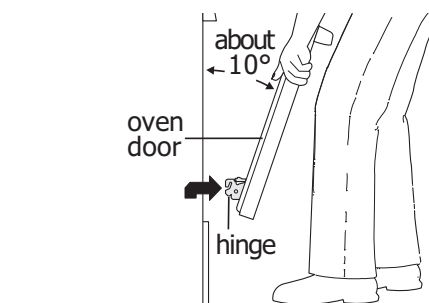
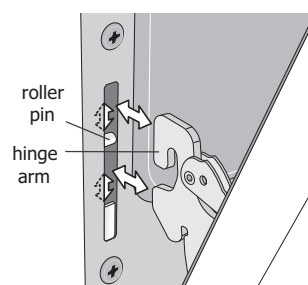

Figure 18: Holding door for removal
Figure 19: Replacement and location of hinge arm and roller pin
3. Firmly grasp both sides of oven door along the door sides. Do not use the oven door handle (See Figure 18).
4. Close the door to approximately 10 degrees from the door frame (See Figure 18).
5. Lift the oven door hinge arms over the roller pins located on each side of the oven frame (See Figure 19).
1. Firmly grasp both sides of oven door along the door sides. Do not use the oven door handle (See Figure 18).
2. Holding the oven door at the same angle as the removal position, seat the hook of the hinge arm over the roller pins located on each side of the oven door frame (See Figure 18 and Figure 19). The hook of the hinge arms must be fully seated onto the roller pins.